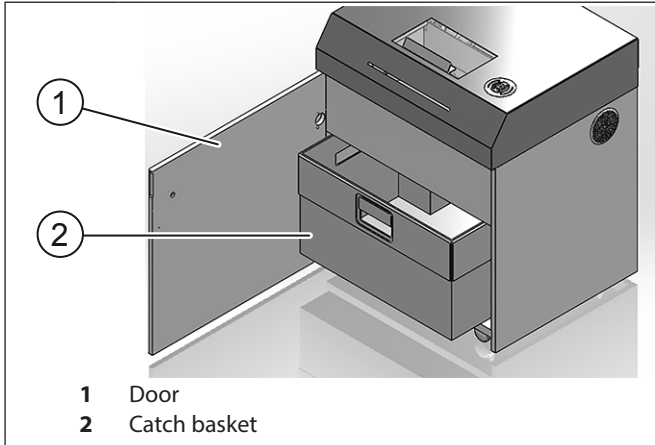

Fig. 8 Catch basket
Proceed as follows to empty the catch basket (Fig. 8/2):
1. Open the door (Fig. 8/1).